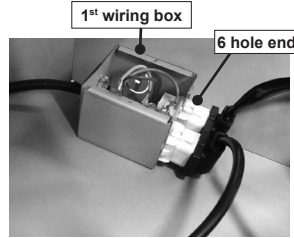

FIGURE 15
3. Connect the wire coming out from the 2nd wiring box to the 6 hole end of the 1st wiring box. Connect the wire that comes out from the black box of the electronic board to the 9 hole end of the 1st wiring box (Figure 15).